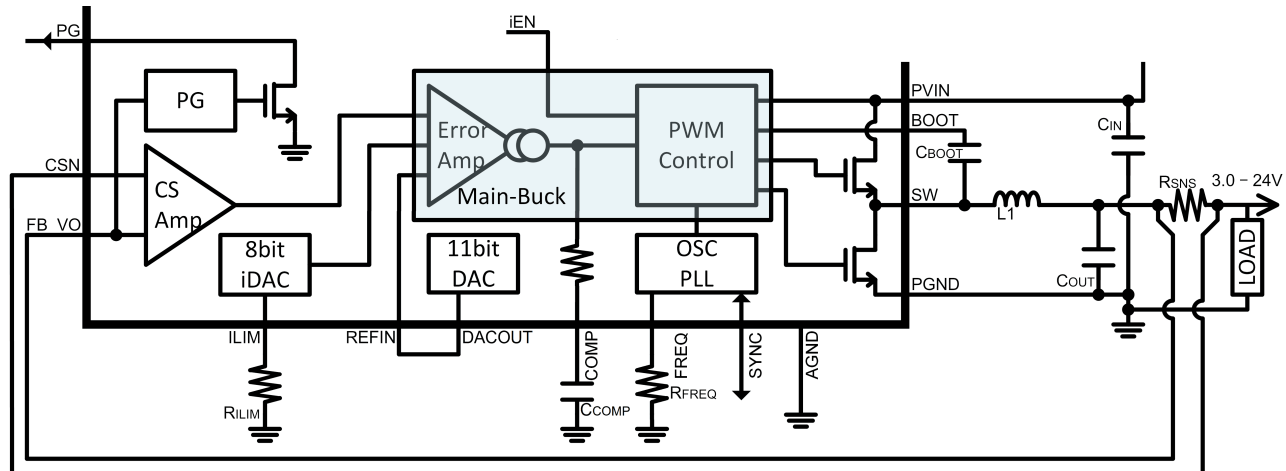

Figure 50. Main-buck Regulator
A compensation network is required between the COMP pin and the ground. See Figure 50 and Main-buck Compensation Network.
The ACT4751M provides a current sense (CS) amplifier to monitor its output current, I_{OUT} , precisely for the Programmable Current Limit and Over-Current Protection blocks. This CS amp uses the FB_VO pin and the CSN pin (current sense negative) as its differential inputs and generates a device internal signal, V_{CS} with a gain of 20, by following the Eq.\(10\). As shown in Figure 50, the FB_VO and the CSN pins are monitoring an external current sense resistor R_{CS} .